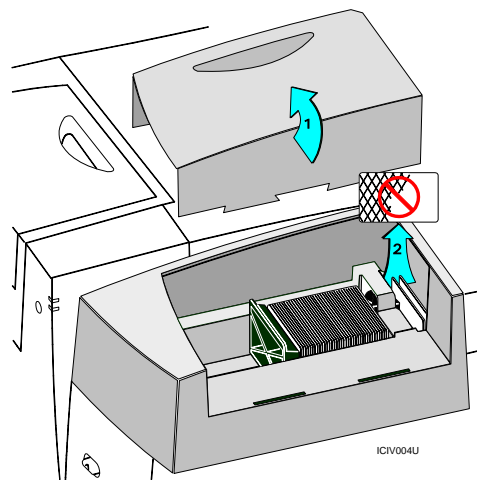

Figure 5-8: Remove rejected cards
- 1 If the printer has a lock, unlock the printer. Lift the output tray cover and set aside (step 1 in Figure 5-8).
- 2 Lift the cards from the reject bin (step 2 in Figure 5-8).